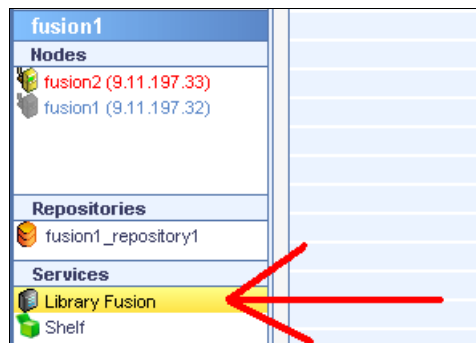

Figure 8-25 Select library
1. Select Library xxx on the left pane of the IBM ProtecTIER manager window (see Figure 8-25).